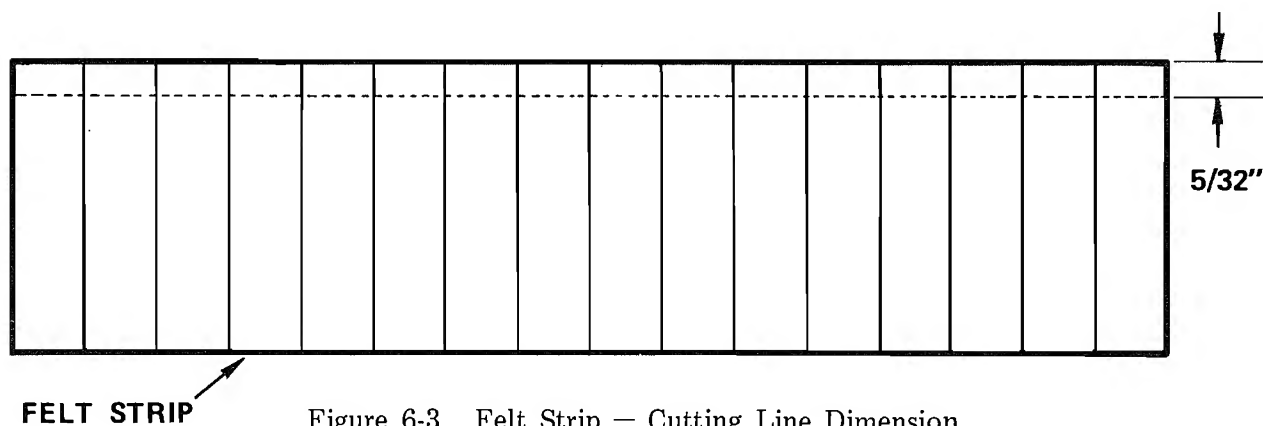

Figure 6-3. Felt Strip — Cutting Line Dimension
9. Measure $5/32''$ (3.969mm) in from one edge of the Felt Strip (Figure 6-3) and slice along the strip of Felts with a sharp knife ensuring that both pieces retain the protective paper backing. Lay aside the $1-13/32''$ (35.719mm) Felt Strips.